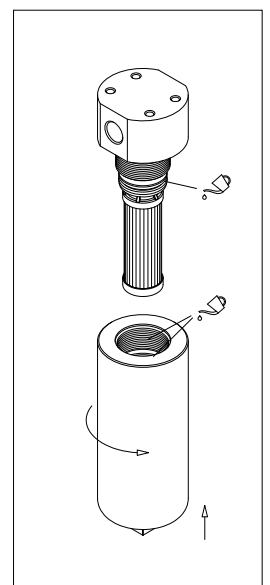

fig. 11
- (Fig.11) Lubricate the thread and the O-ring of the bowl, then screw the bowl in referring to the tightening torque table in paragraph 3